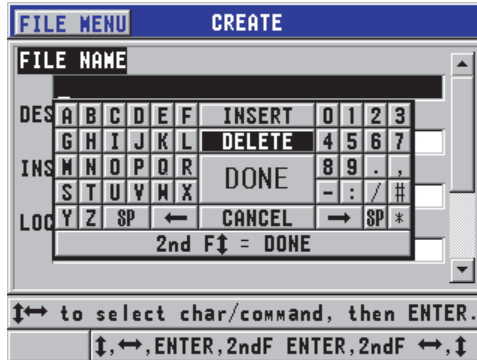

Figure 6-17 Example of the CREATE screen
2. In the **CREATE** screen (see Figure 6-17 on page 93):